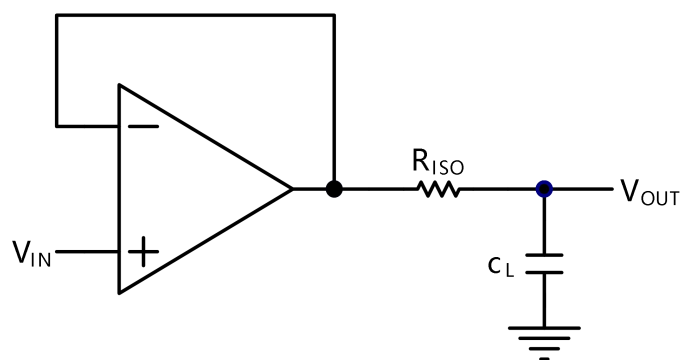
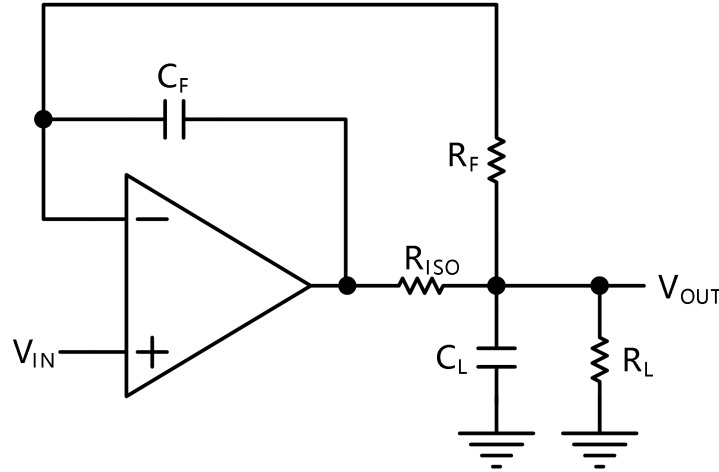

Figure 2. Indirectly Driving a Capacitive Load Using Isolation Resistor
Figure 3. Indirectly Driving a Capacitive Load with DC Accuracy
The CD809X family is optimized for bandwidth and speed, not for driving capacitive loads. Output capacitance will create a pole in the amplifier's feedback path, leading to excessive peaking and potential oscillation. If dealing with load capacitance is a requirement of the application, the two strategies to consider are (1) using a small resistor in series with the amplifier's output and the load capacitance and (2) reducing the bandwidth of the amplifier's feedback loop by increasing the overall noise gain. Figure 2. shows a unity gain follower using the series resistor strategy. The resistor isolates the output from the capacitance and, more importantly, creates a zero in the feedback path that compensates for the pole created by the output capacitance.
The circuit in Figure 3 is an improvement to the one in Figure 2. R_F provides the DC accuracy by feed-forward the V_{IN} to R_L . C_F and R_{ISO} serve to counteract the loss of phase margin by feeding the high frequency component of the output signal back to the amplifier's inverting input,